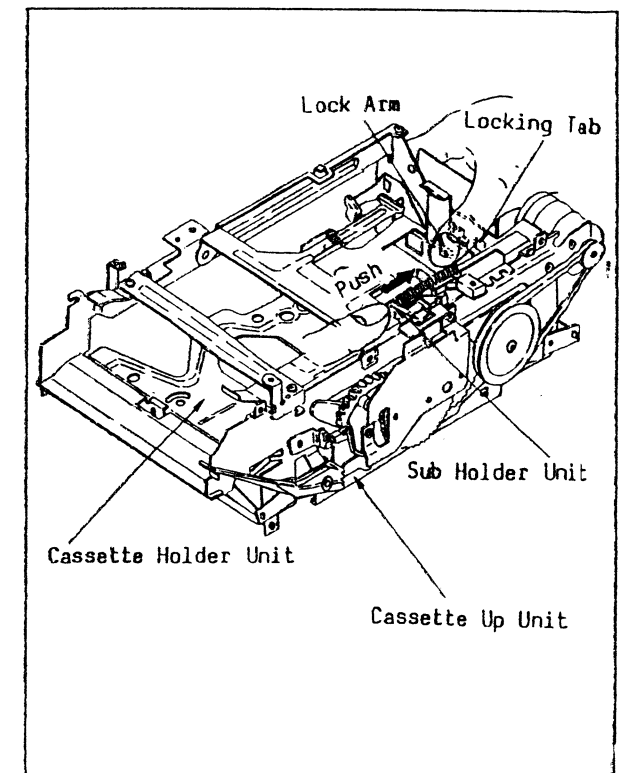

Fig. 7
2. Press the Sub Holder Unit into the loading condition with left thumb as shown in Fig. 7.